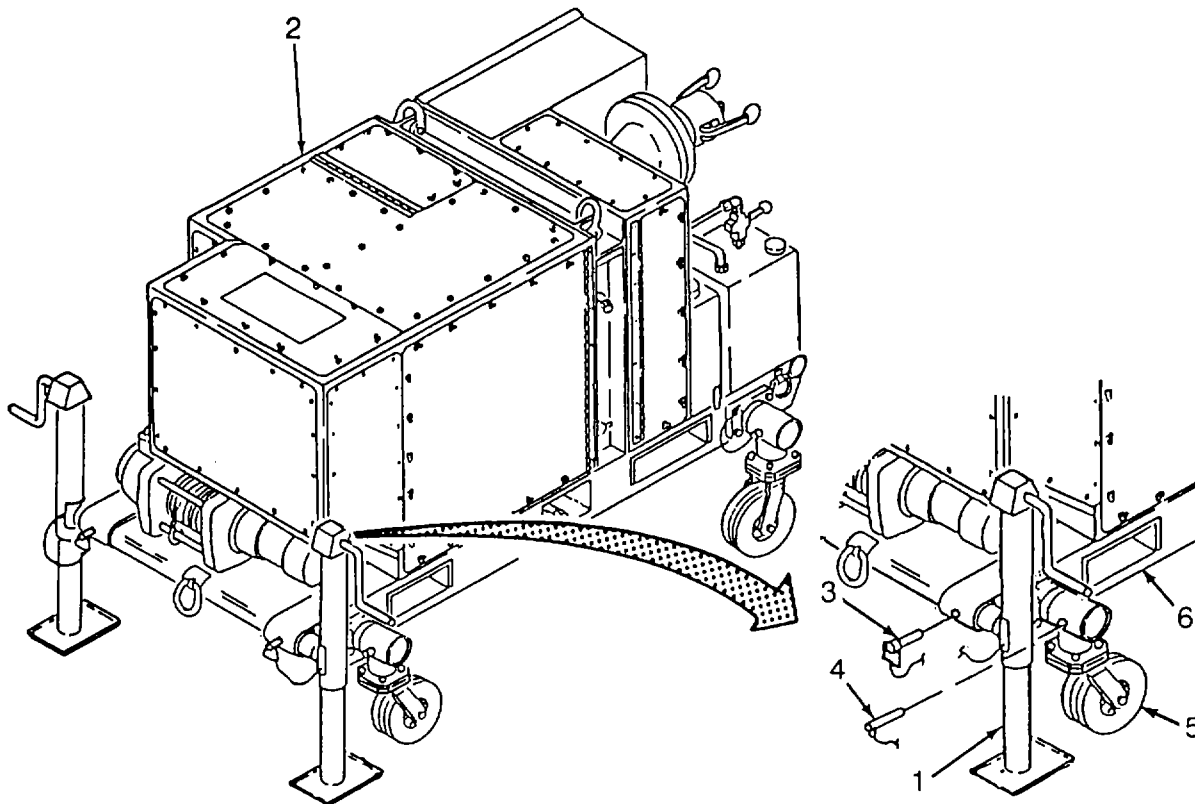

Figure 2-12. Wheel Positioning (Wheels Down)
(15) Wheels positioning (wheels down). Refer to Figure 2-12.